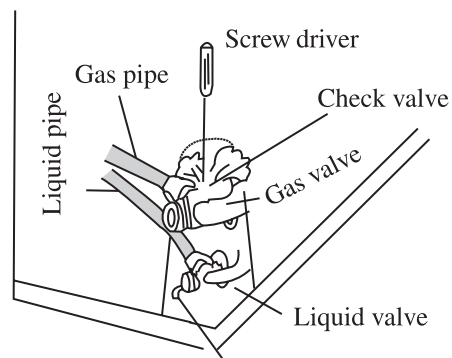

Fig.7
- 8.Open the liquid valve and gas valve entirely (shown in Fig.7).